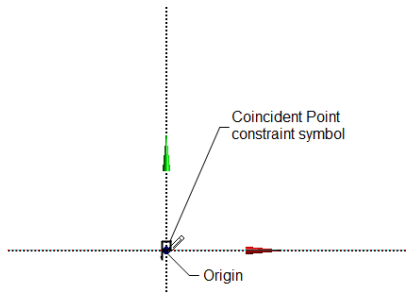

Figure 3-19 Specifying the start point of the line
7. Move the cursor close to the origin in the **Graphics** window and click to specify the start point of the line when the symbol of Coincident Point constraint (**P**) is displayed, refer to Figure 3-19.